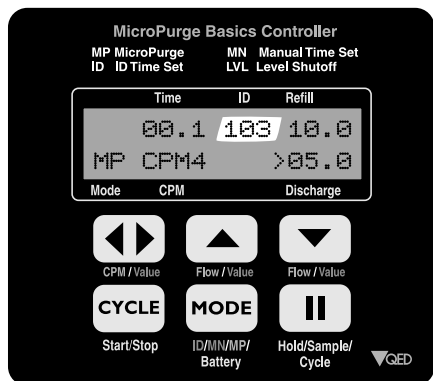

Figure 3
7. On **basics** controller, select desired Cycles Per Minute (CPM) with arrow key (default value is 4 CPM, lower CPM for deeper wells, higher CPM possible with shallow wells) (see Figure 3 below).
9. Press the **basics** controller cycle key to start pumping (see Figure 3 above).
11. Press basics controller "UP/DOWN" keys (see Figure 3 above) to set the desired purge flow rate.